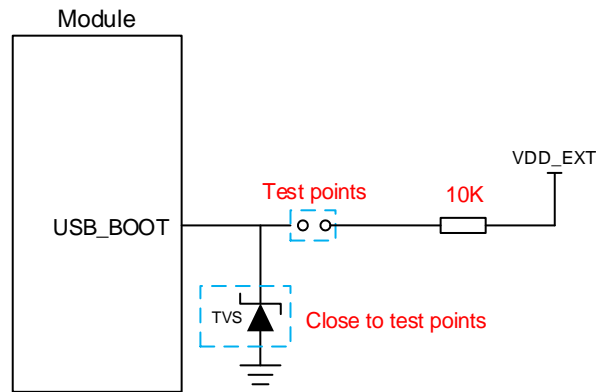

Figure 26: Reference Design of USB_BOOT Interface
3. When using MCU to control the module entering emergency download mode, follow the above timing sequence. Connecting the test points as shown in **Figure 26** can manually force the module into download mode.